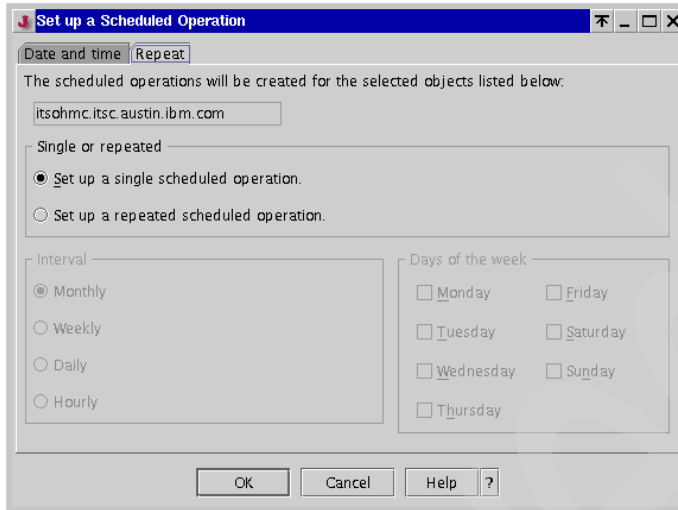

Figure 4-16 Set up a Scheduled Operation: Repeat tab
5. Select the **Repeat** tab. Choose **Set up a single scheduled operation** or **Set up a repeated scheduled operation**, as shown in Figure 4-16 on page 95. If you select a repeated scheduled operation, specify the Interval and Days of the week fields accordingly. Click **OK**.